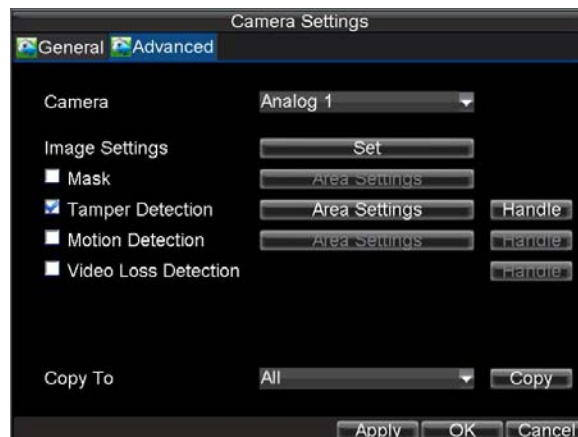

Figure16. Camera Settings Menu
4. Check the **Tamper Detection** checkbox, as shown in Figure 16.